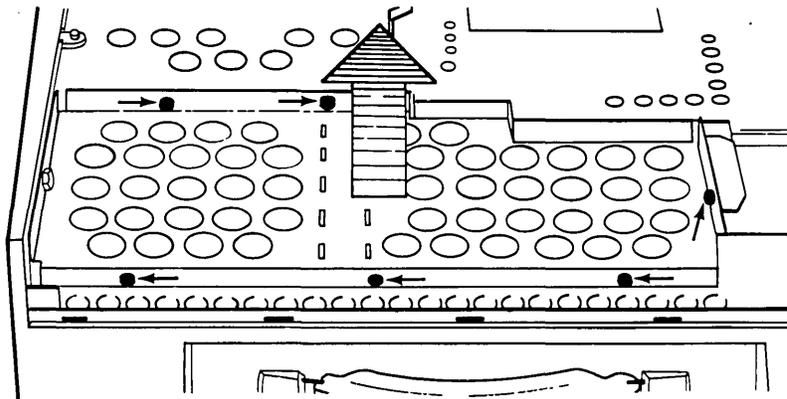

Figure 11-13. Removing the Cover of the PCB Compartment.
3. Loosen (DO NOT REMOVE) the three screws and one nut on the top edge. Lift the cover off (see Figure 11-13).